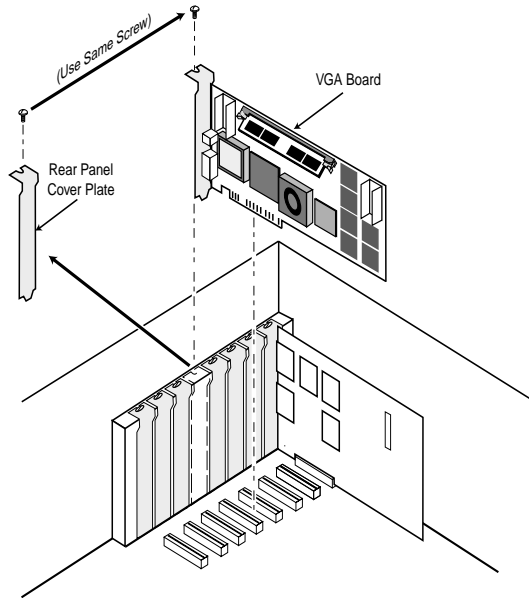

Figure 5-8. SVGA Board Installation
The area that supports the industry-standard SVGA board is located at the rear of the Duet chassis, behind the disk drive bay. Before installing the SVGA board, remove the Duet top cover (as previously described) if not already removed. Then, refer to Figure 5-8 to locate a PCI slot in the Duet chassis if you are installing a PCI graphics board. Remember that any PCI card may be installed in any available PCI slot. The 3D Labs VX-1 card is an AGP-type graphics board, and plugs directly into the CPU board.
- [] 1. Refer to Figure 5-8. Using an appropriate screwdriver, remove the Rear Panel Cover Plate for the PCI slot the SVGA board will be installed in. *When viewed from the rear panel, each cover plate is slightly to the left of its matching board slot.* Retain the screw for installation of the SVGA board, and retain the cover plate for possible future use!
- [] 1. Refer to Figure 5-8. Using an appropriate screwdriver, remove the retaining screw from the rear panel bracket of the SVGA board. Retain the screw for cover plate installation!